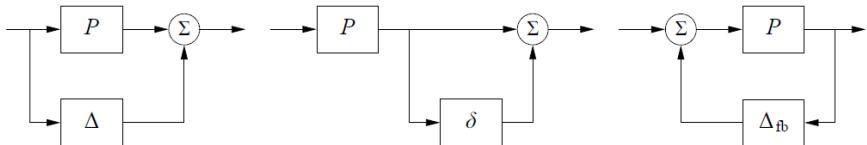

Figure 1
- ▶ This condition is **conservative** because it follows from Figure 1 that the critical perturbation is in the direction toward the critical point -1 . Larger perturbations can be permitted in the other directions.